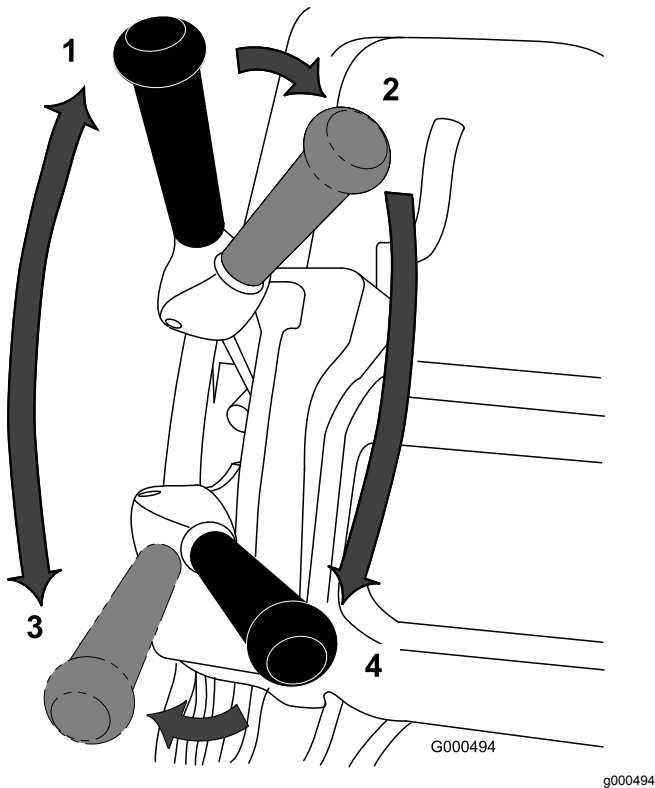

Figure 23
1. Start the engine, set the throttle to a reduced speed, push down on the handle to raise the cutting unit, press the operator-presence control, move the traction and reel-drive engagement lever to the **FORWARD** (transport) position, and transport the machine onto the collar of the green (Figure 23).
2. Move the lever to the **NEUTRAL** position (Figure 23).
3. Move the lever to the traction—NEUTRAL and reel drive—DISENGAGE position (Figure 23).
4. Move the lever to the traction—FORWARD and reel drive—ENGAGE position (Figure 23), increase the throttle speed until the machine is traveling at the desired ground speed, drive the machine onto the green, lower the cutting unit to the ground, and begin mowing.